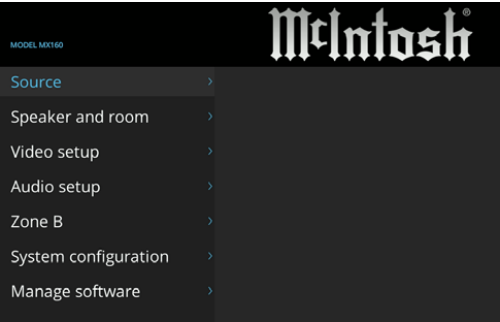

Figure 7
1. Press the **SETUP** Push-button on the Remote Control and the Main Setup Menu will appear on the Monitor/TV screen. Refer to figure 7.